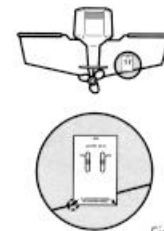

Figure 4
2. Hold the template on the transom of the boat in the location where the transducer will be installed (Figure 4). Align the template vertically, ensuring the lower edge of the transom meets with the bottom corner of the template.